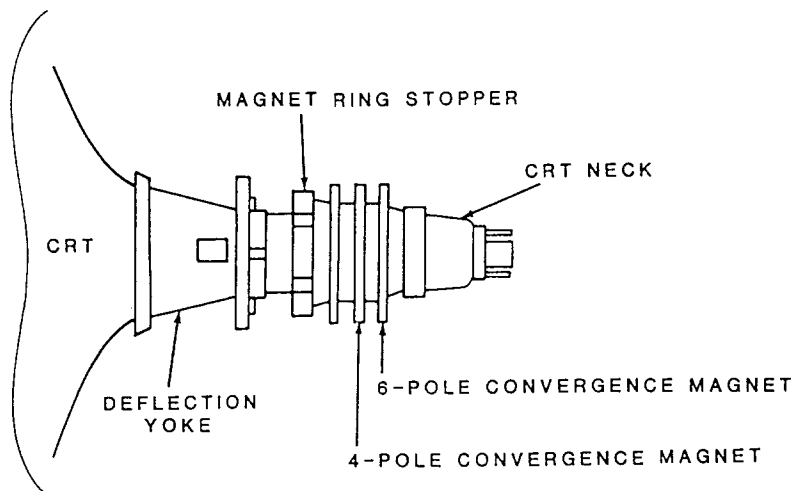

Figure 4-4. CRT Convergence Magnet Assembly
1. Locate the convergence magnets on the neck of the CRT. Refer to Figure 4-4 and identify the 4-pole, 6-pole and purity magnets.